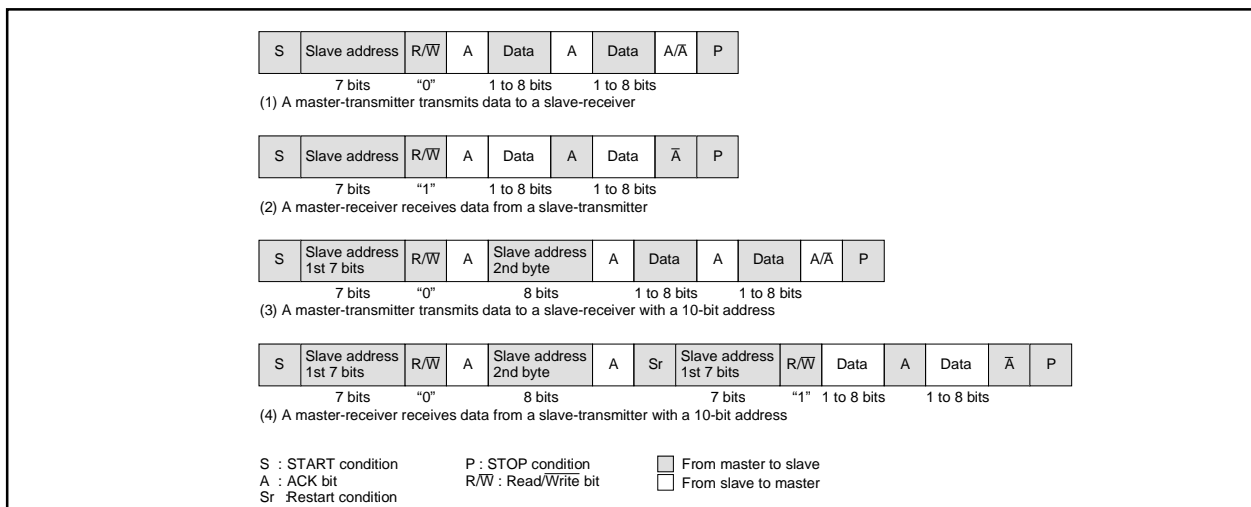

Fig. 2.11.41 Address data communication format
To meet the 7-bit addressing format, set the 10BIT SAD bit of the I2Ci control register to “0.” The first 7-bit address data transmitted from the master is compared with the high-order 7-bit slave address stored in the I2Ci address register. At the time of this comparison, address comparison of the RBW bit of the I2Ci address register is not made. For the data transmission format when the 7-bit addressing format is selected, refer to Figure 2.11.41, (1) and (2).
When the first-byte address data matches the slave address, the AAS bit of the I2Ci status register is set to “1.” After the second-byte address data is stored into the I2Ci data shift register, make an address comparison between the second-byte data and the slave address by software. When the address data of the 2nd bytes matches the slave address, set the RBW bit of the I2Ci address register to “1” by software. This processing can match the 7-bit slave address and  $R/\overline{W}$  data, which are received after a RESTART condition is detected, with the value of the I2Ci address register. For the data transmission format when the 10-bit addressing format is selected, refer to Figure 2.11.41, (3) and (4).
**(11) Example of Master Transmission**